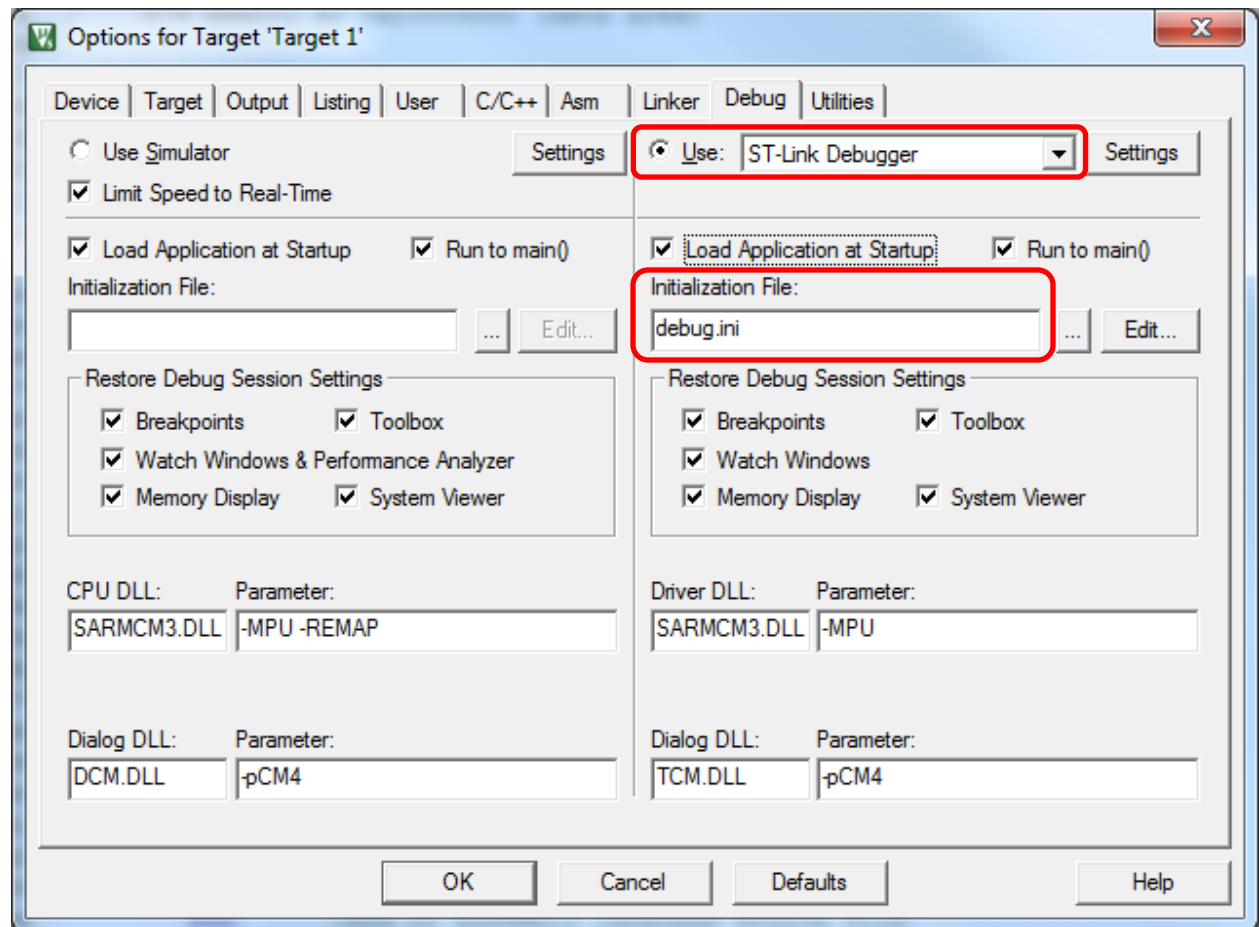
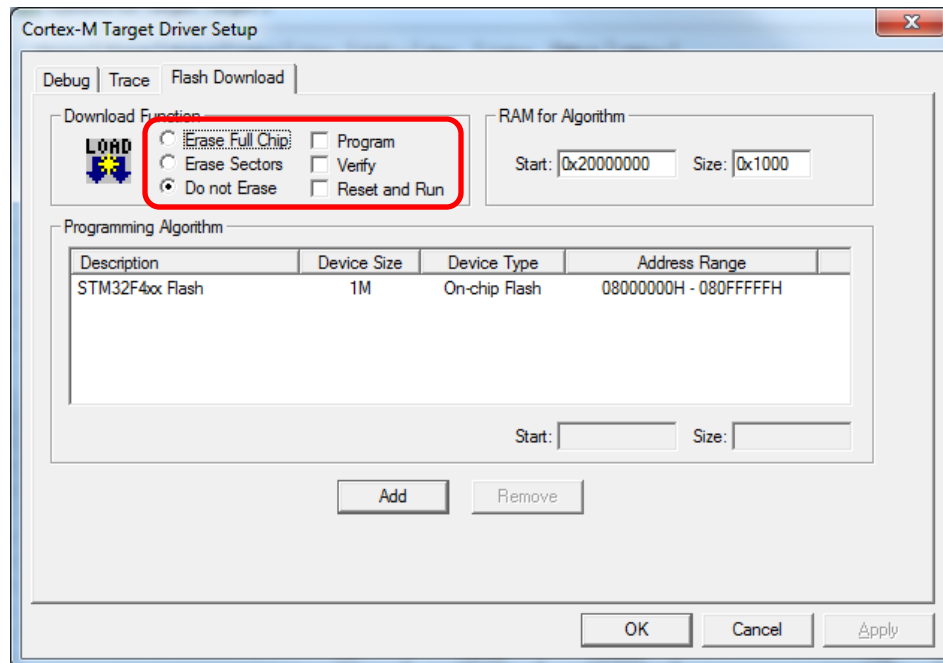

Figure 6. Target Options Debug tab. “Use ST-Link Debugger” selected.
Figure 11. Disable flash erase/write/verify for debugging in on-chip RAM
- Select the **Debug** tab (Figure 6), check the **Use** button and select **ST-Link Debugger**.
- Select the **Debug** tab (Figure 6), check the **Use** button and select **ST-Link Debugger**, and follow the instructions in Step 8 above for the **Cortex-M Target Driver Setup**, except on the **Flash Download** tab (Figure 11) you must select **Do not Erase** and uncheck **Program** and **Verify**. This disables flash memory programming.
10. To initiate a debug session for a program previously programmed into the microcontroller's flash memory on the Discovery board, set up the project Debug options as in Step 8 above, but on the Debug tab (Figure 6), uncheck the button **Load Application at Startup**, located beneath the **Use ST-Link Debugger** button. This will cause the debugger to be entered without downloading the program, and therefore use the program currently in the target microcontroller's flash memory.